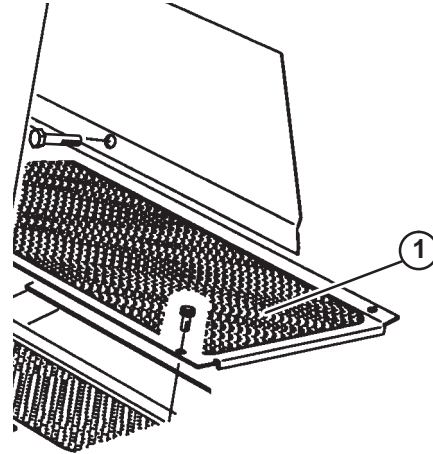

Figure 5
1. Remove fastener securing left front corner of floor panel to frame (Fig. 5).
2. Replace with a flange head capscrew (5/16 x 5/8 inch) supplied in loose parts (Fig. 5).